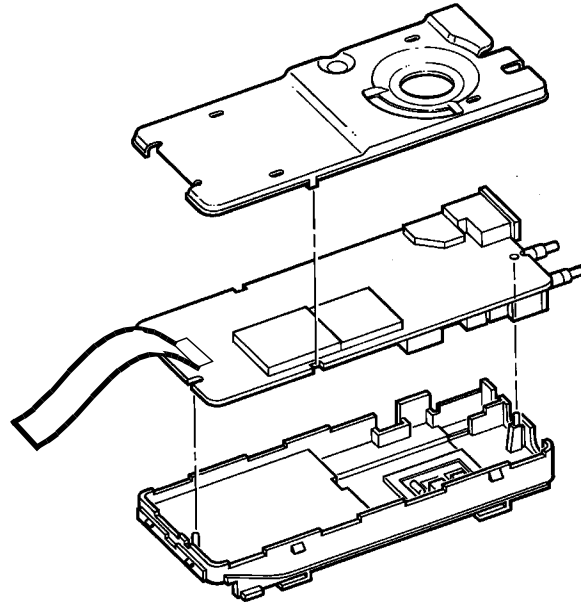

Figure 1-12. Align Pins
2. Insert the flexible circuit tail end (marked "RF") into the ZIF connector on the RF board and lock the connector by engaging the latch (Figure 1-12).
3. Insert main board into chassis using alignment pins as a guide (Figure 1-12).
4. Place front shield on main board using tabs as a guide (Figure 1-12).